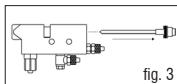

fig. 3
- 7) With a small pinch clamp, remove the needle (see figure 3)